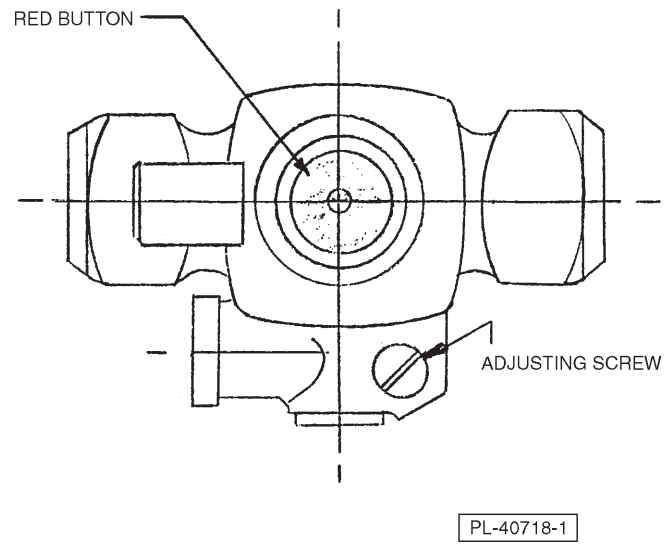

Fig. 1
To adjust the pilot flame, remove the pilot adjustment cap to expose the adjusting screw (Fig. 1). Rotate the adjusting screw clockwise to reduce the gas flow and counterclockwise to increase the gas flow to provide a properly sized pilot flame (approximately $\frac{1}{2}$ " to $\frac{3}{4}$ " long). Replace adjustment cap.
3. Wait for five minutes, then depress the red button on the shutoff valve (see Fig. 1) and light pilot through the observation hole in the front panel. Keep red button depressed for one minute after lighting.